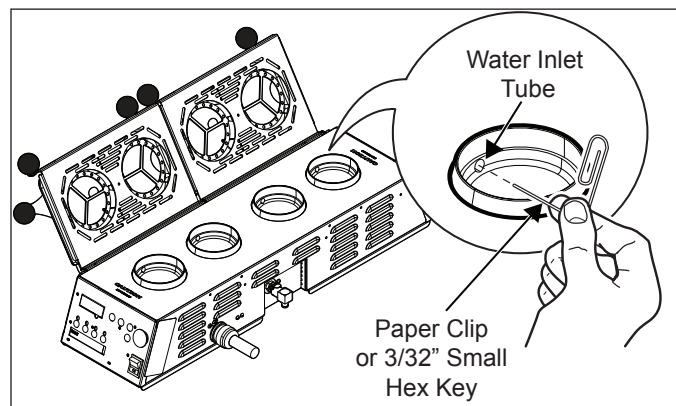

Figure 6. Cleaning Water Inlet Tube
1. With the unit cool, insert a straightened paper clip or a 3/32" small hex key into the Water Inlet Tube opening no more than 1 1/2 inches deep (Figure 6).